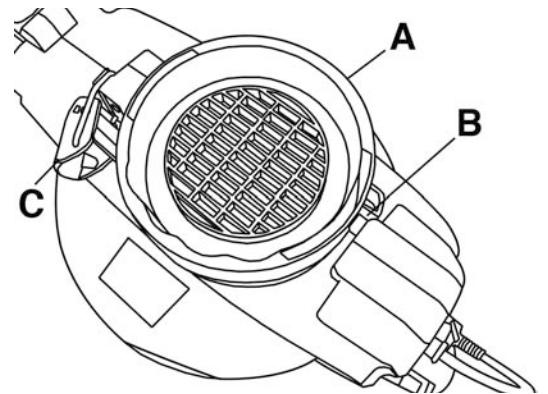
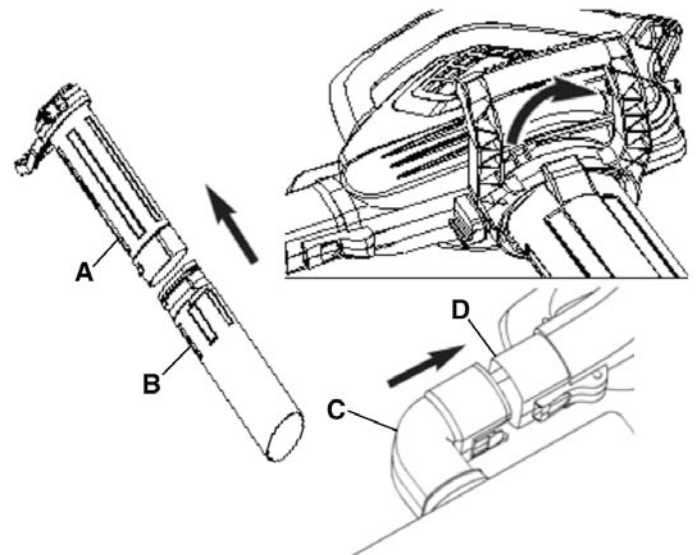

FIGURE 5
FIGURE 6
To install the blower inlet safety guard (A) Fig.5 to the blower inlet, position the blower inlet safety guard over the blower inlet, rotate the safety guard approximately 90 degrees. Make sure the safety guard has engaged the blower inlet grooves, at this point you must not be able to lift the safety guard upwards. Make sure the limit switch actuator (B) engages the inner limit switch, then lock the blower inlet safety guard using the locking clip (C). The blower is now ready to use, make sure you have read and understood the safety and operation instructions before using.
Warning! The vacuum/mulcher inlet and outlet both have a built-in limit switch which prevents the vacuum/mulcher from starting if the main collection tube (A) Fig.6 and the collection bag attachment (C) are not installed or not installed properly. Make sure the vacuum/mulcher main collection tube and the collection bag attachment are installed before attempting to use the vacuum/mulcher.
In vacuum/mulcher mode, the main collection tube (A) Fig.6, lower section collection tube (B) and the collection bag attachment (C) with collection bag must be installed. First, remove the blower inlet safety guard (A) Fig.5 (if installed). Then install the main collection tube (A) to the vacuum/mulcher inlet, position the main collection tube over the vacuum/mulcher inlet, rotate the collection tube approximately 90 degrees. Make sure the collection tube has engaged the vacuum/mulcher inlet grooves, at this point you must not be able to lift the collection tube upwards. Make sure the limit switch actuator engages the inner limit switch, then lock the collection tube using the locking clip (refer to "B" & "C" Fig.5).
Install the lower section collection tube (B) Fig.6 to the main collection tube (A). Align the grooves on both collection tubes and push them together until they click into position.
Then install the collection bag and attachment (C) Fig.6 to the vacuum/mulcher outlet (D). Align the grooves on the collection bag attachment with the grooves on the vacuum/mulcher outlet. Push the collection bag attachment onto the vacuum/mulcher outlet until it clicks into position. Attach the collection bag buckle to the clip on the lower section collection tube. The vacuum/mulcher is now ready to use, make sure you have read and understood the safety and operation instructions before using.